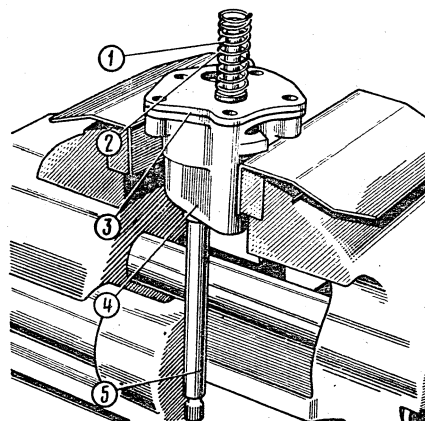

Fig.2-68. Disassembling the Oil Pump:
- remove pump casing cover 3 (Fig. 2-68) and take the pump shaft with the drive pinion, then the driven gear, from the casing.
- after pressing in, the bushes must be finish-machined to the exact inside diameter (for dimensions see Fig. 2-68). To ensure perfect axial alignment of the shaft bushes, ream both of them jointly with the aid of reamer A.90353.